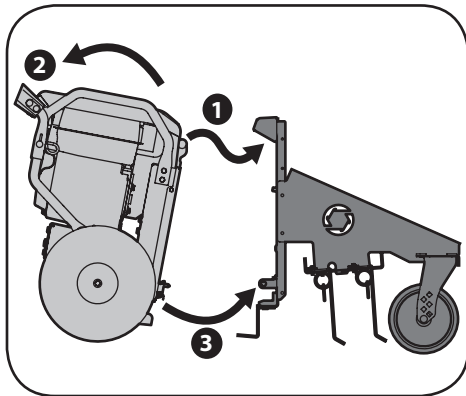

Figure 4-3
2. Roll the FLEX™ Power Base forward and tip it up, engaging the top part of the dethatcher attachment with the handle mount provided on the FLEX™ Power Base (1 of Figure 4-3).
3. Tip the FLEX™ Power Base backwards to engage the two bottom connection points (2 and 3 of Figure 4-3).